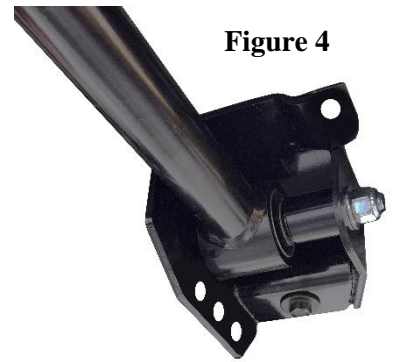

Figure 4
6. Secure the leaf spring to the new leaf spring mount with the 1/2" x 5" bolt head towards the inboard side of the vehicle using two washers and one nyloc nut. Torque to 75 lb. ft. This through bolt connection is not accessible once the mounts are installed onto the vehicle. **(Figure 4)**